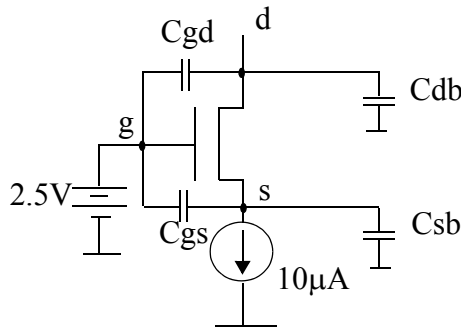

Figure 0.16 Device going through different operation regions over time
19. [M, None, 3.3.3] For the NMOS transistor in Figure 0.16, **sketch the voltages** at the source and at the drain as a function of time. Initially, both source and drain are at +2.5 volts. Note that the drain is open circuited. The $10 \mu\text{A}$ current source is turned on at $t=0$. Device parameters: $W/L_{\text{eff}} = 125\mu/0.25\mu$; $\mu C_{\text{ox}} = 100 \mu\text{A}/\text{V}^2$; $C_{\text{ox}} = 6\text{fF}/\mu^2$; C_{OL} (per width) = $0.3 \text{ fF}/\mu$; $C_{\text{sb}} = 100 \text{ fF}$; $C_{\text{db}} = 100\text{fF}$; $V_{\text{DSAT}} = 1\text{V}$.